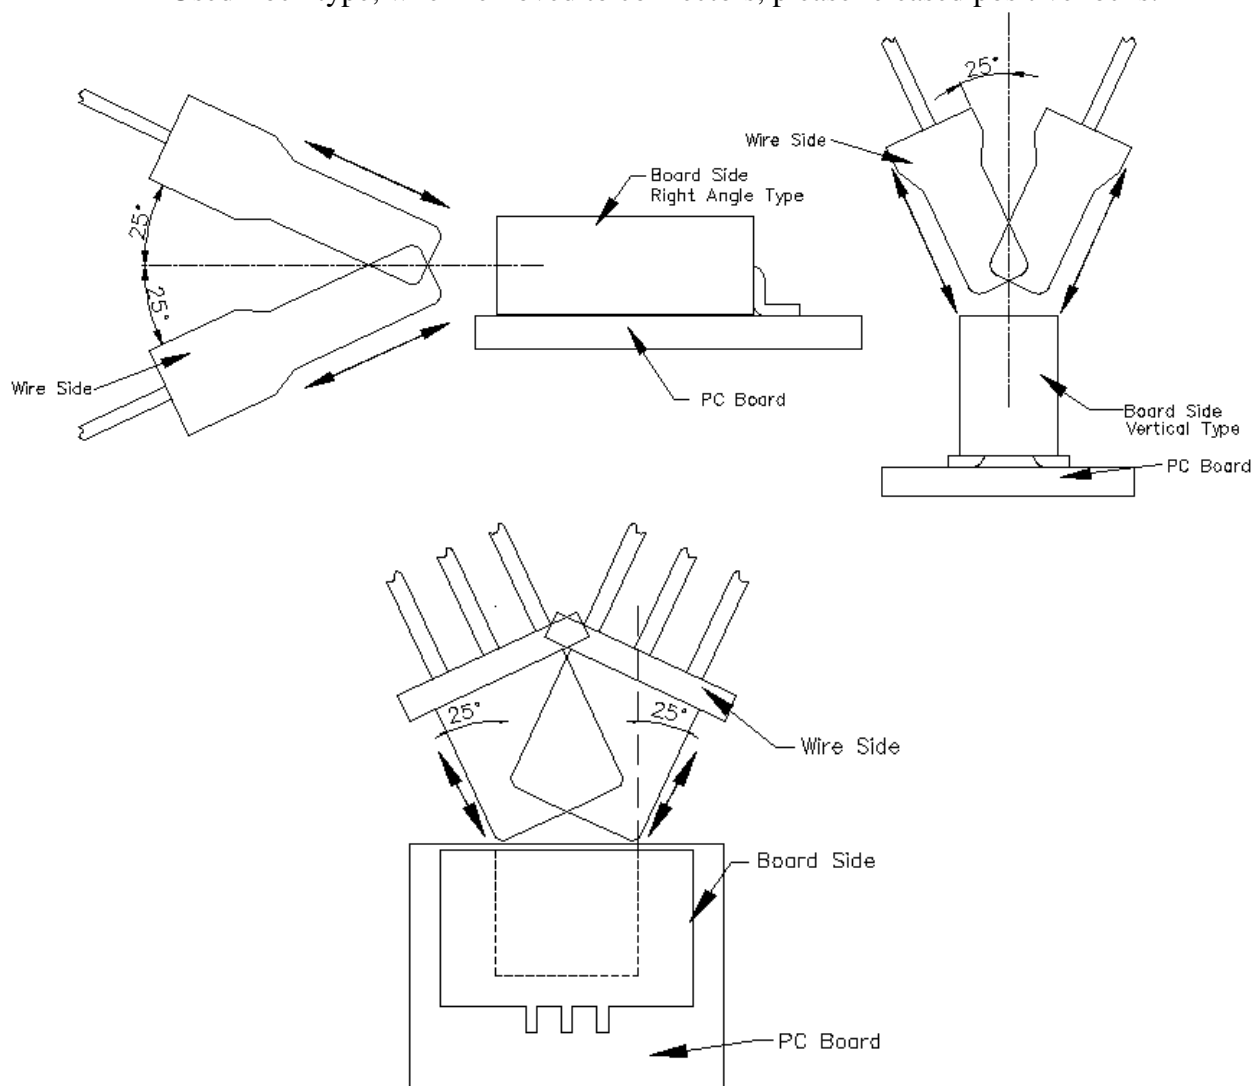

Figure 3.
- Do not insert and remove at an angle of 25° or greater. Doing so will cause contact deformation or case damage. (see figure 3).